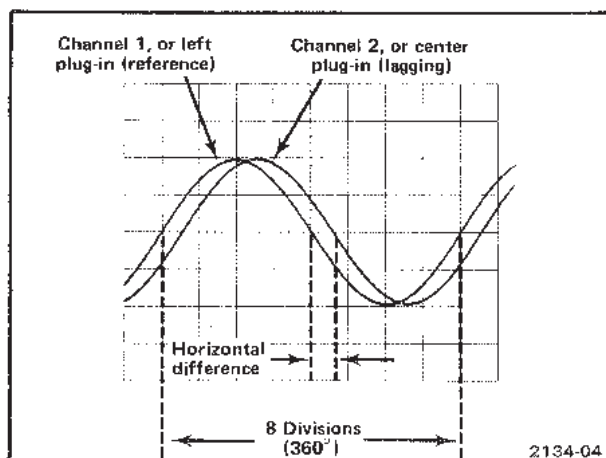
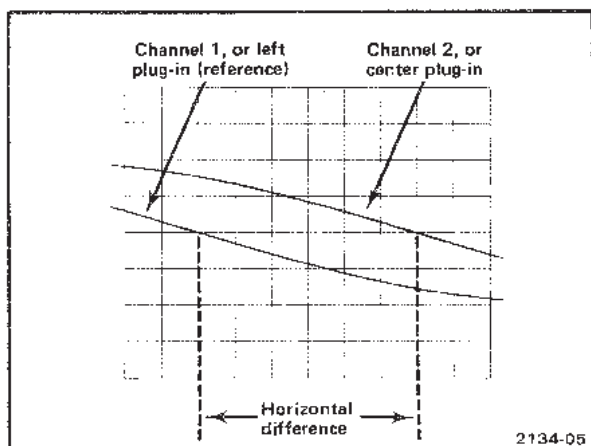

Fig. 1-8. Measuring phase difference.
Fig. 1-9. High-resolution phase difference measurement with increased sweep rate.
9. Turn the variable Seconds/Div control until one cycle of the reference signal (Channel 1, or left plug-in) occupies exactly eight divisions between the second and tenth vertical lines of the graticule (see Fig. 1-8). Each division of the graticule represents 45° of the cycle (360° ÷ 8 divisions = 45°/division). The sweep rate can be stated in terms of degrees as 45°/division.
EXAMPLE: Assume a horizontal difference of 0.6 division with a sweep rate of 45°/division as shown in Fig. 1-8. Use the formula:
EXAMPLE: If the sweep rate were increased 10 times with the magnifier, the magnifier sweep rate should be $45^\circ/\text{division} \div 10 = 4.5^\circ/\text{division}$. Figure 1-9 shows the same signals as used in Figure 1-8, but with the Swp Mag button pushed in. With a horizontal difference of six divisions the phase difference is: